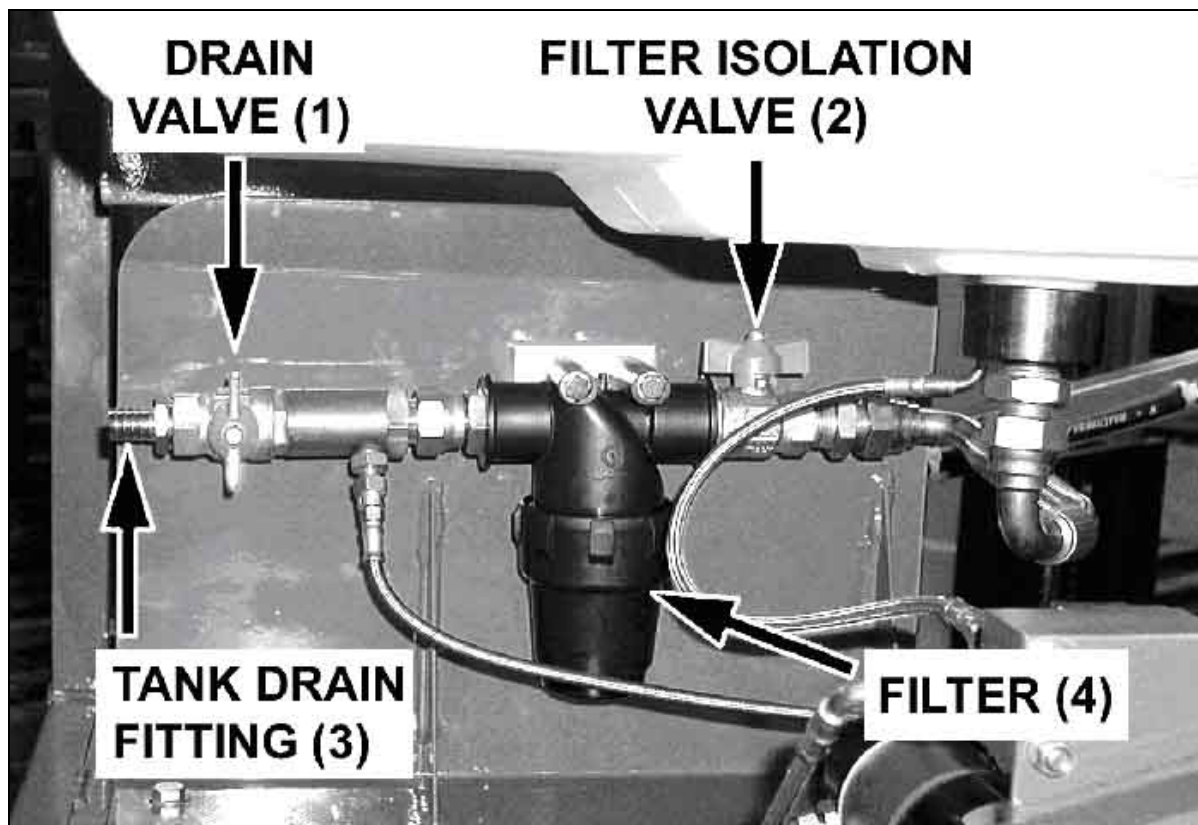

Fig. 2 – Valves & Filter Under Tank
Item numbers in brackets refer to Fig. 2 and labels of switches and indicator lights are shown in ***bold italics***.
1. Ensure that the drain valve (1) is CLOSED and the isolation valve (2) is OPEN (as shown in Fig. 2).